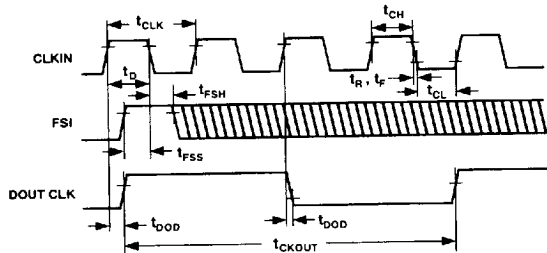

Figure 17. Frame Sync Input (FSI) Timing (FIR Filter Output Mode)
Referring to Figure 17, the FSI pin is sampled on the falling edge of CLKIN. The FSI pin must adhere to several conditions depending on which mode is being used as follows:
3. FSI must be synchronized to CLKIN to meet the timing requirements outlined in Figure 17.
The FSI pin is useful when multiple AD776s are used together and must be synchronized. In such a case, a single pulse may be applied to FSI inputs of the converters. This causes the internal "state-machine" of the AD776 to be reset. Thus, the internal clocking for both the analog and digital circuitry of each individual converter is synchronized and in-phase. In the case of a single FSI pulse, it must still adhere to the timing outlined in Figure 17.